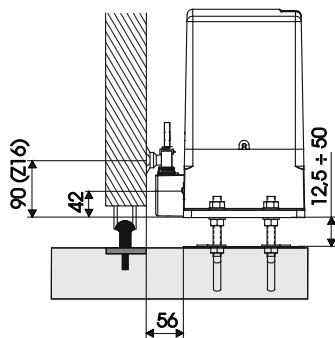

Fig.10
- 3- Adjust the height of the gearmotor and the distance from the gate, referring to dimensions in Fig. 10.